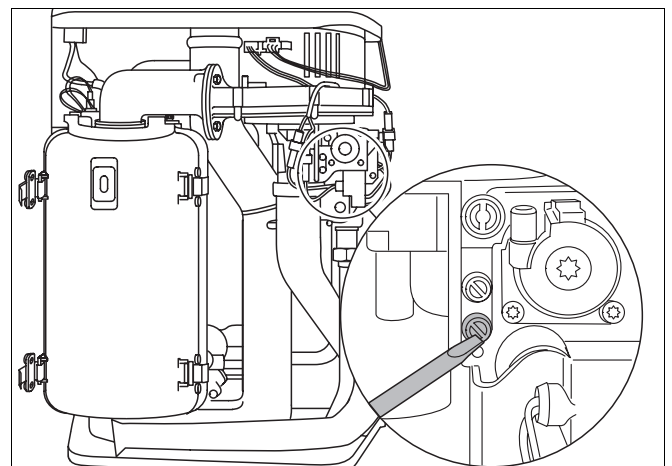

Fig. 25 Purging air from the gas supply system
- Unscrew the gas inlet test point by two turns (fig. 25).